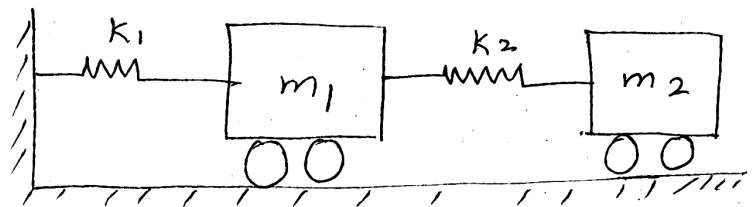

Fig 3 , Q.8
- b. Determine the flexibility influence coefficients of the system shown in Fig. 3 Q8. 10